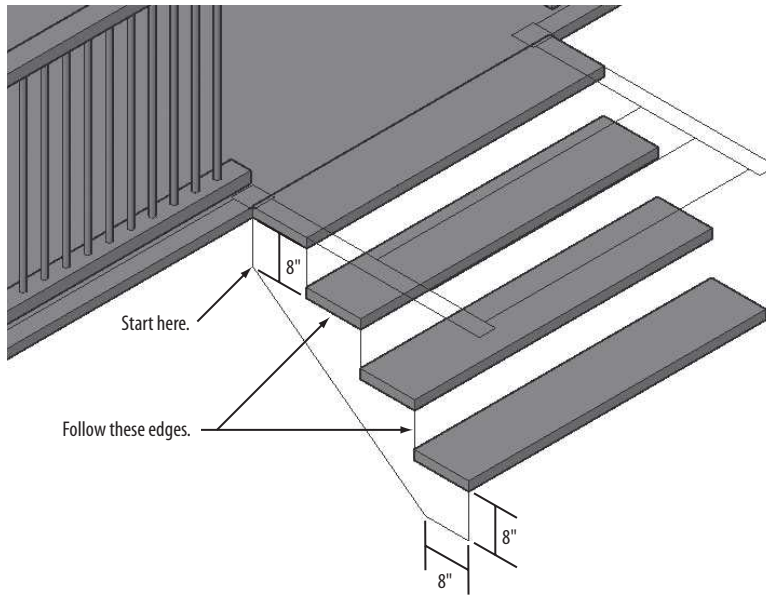

FIGURE 16.59: Drawing the stringer
7. To draw a polyline that you'll extrude to become the stringer (the support for the steps), you'll use a 3D Polyline (see Figure 16.59). Follow these steps: